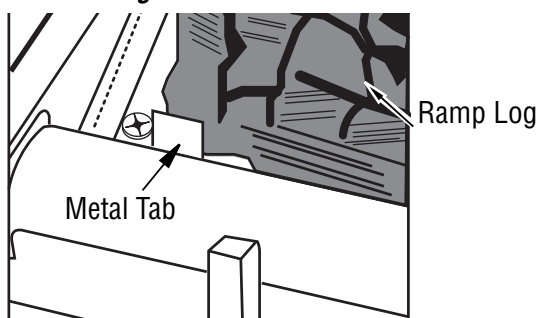

Figure 20-a - Installing Log Set
1. Place bottom log in center of the base assembly as shown in **Figure 20**. The log must sit flat on the black sheet metal and behind the left metal tab as shown in **Figure 20-A**.
2. Rest rear log in back corner sections of base assembly as shown in **Figure 20**. Make sure log is completely vertical and not leaning in toward burner where flame will touch the log.